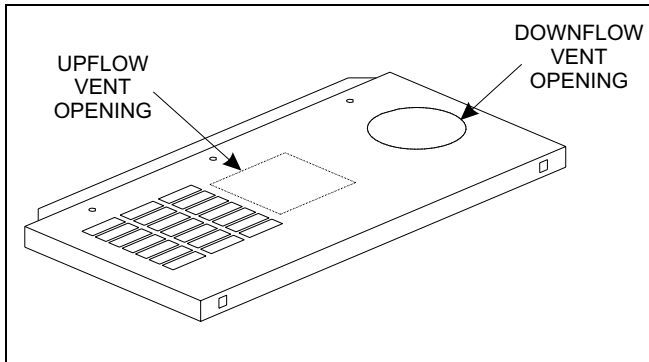

FIGURE 5 : Top Cap
14. Remove the rectangular knockout in the center of the top cap. See Figure 5.
15. Remove the round knockout at the right side of the top cap. See Figure 5.